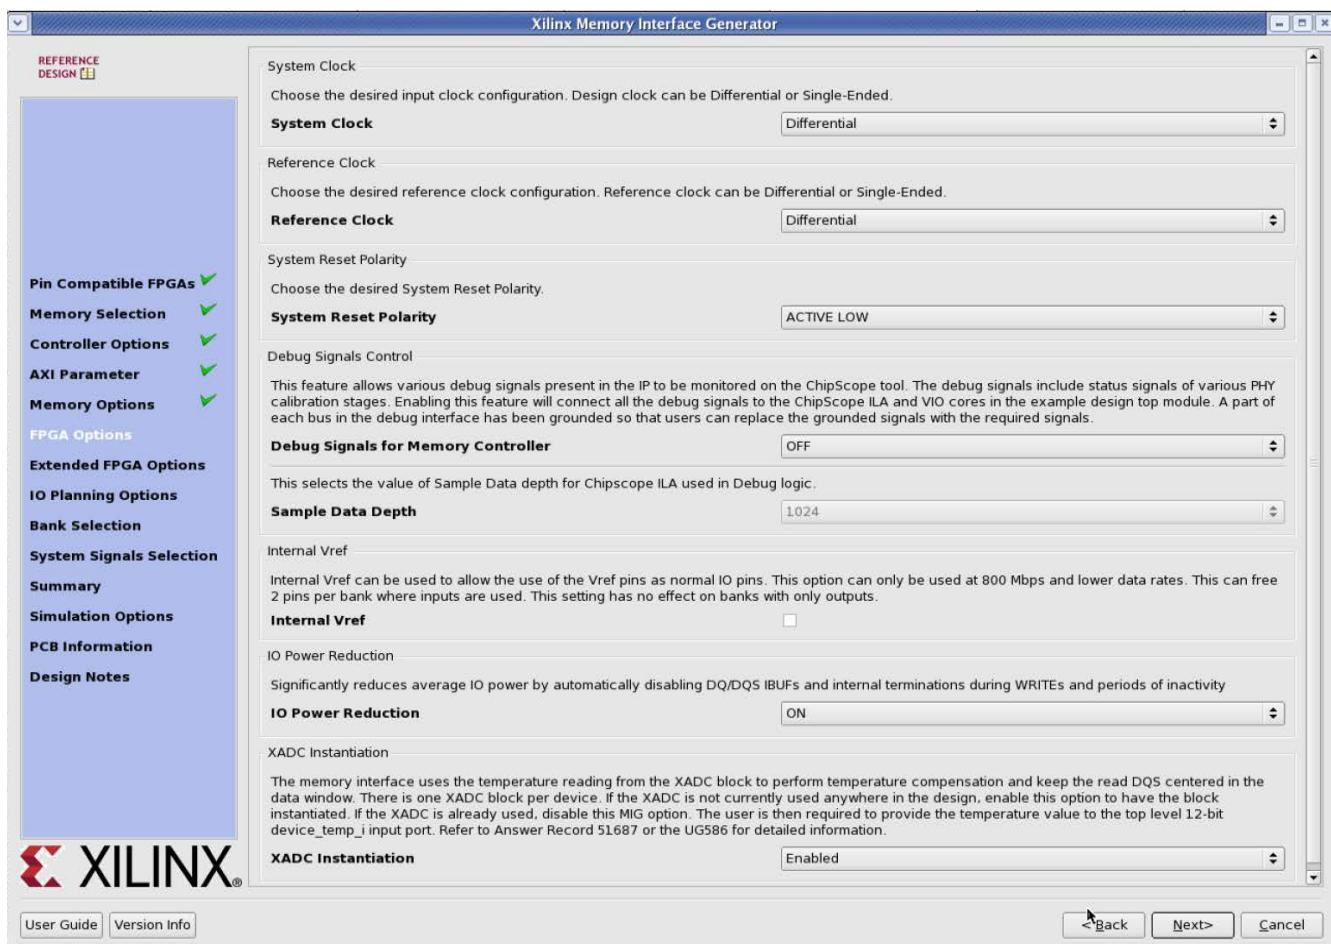

Figure 1-22: **FPGA Options**
Figure 1-22 shows the FPGA Options page.
- **sys\_clk** – This is the system clock input for the memory interface and is typically connected to a low-jitter external clock source. Either a single input or a differential pair can be selected based on the System Clock selection in the FPGA Options page (Figure 1-22). The sys\_clk input must be in the same column as the memory interface. If this pin is connected in the same banks as the memory interface, the MIG tool selects an I/O standard compatible with the interface, such as DIFF\_SSTL15 or SSTL15. If sys\_clk is not connected in a memory interface bank, the MIG tool selects an appropriate standard such as LVCMOS18 or LVDS. The XDC can be modified as desired after generation.
- **clk\_ref** – This is the reference frequency input for the IDELAY control. This is a 200 MHz input. The clk\_ref input can be generated internally or connected to an external source. A single input or a differential pair can be selected based on the System Clock selection in the FPGA Options page (Figure 1-22). The I/O standard is selected in a similar way as sys\_clk.
- **sys\_rst** – This is the system reset input that can be generated internally or driven from a pin. The MIG tool selects an appropriate I/O standard for the input such as LVCMOS18 and LVCMOS25 for HP and HR banks, respectively. Default polarity of `sys_rst` pin is active-Low. Polarity of `sys_rst` pin varies based on "System Reset Polarity" option chosen in **FPGA Options** page (Figure 1-22).